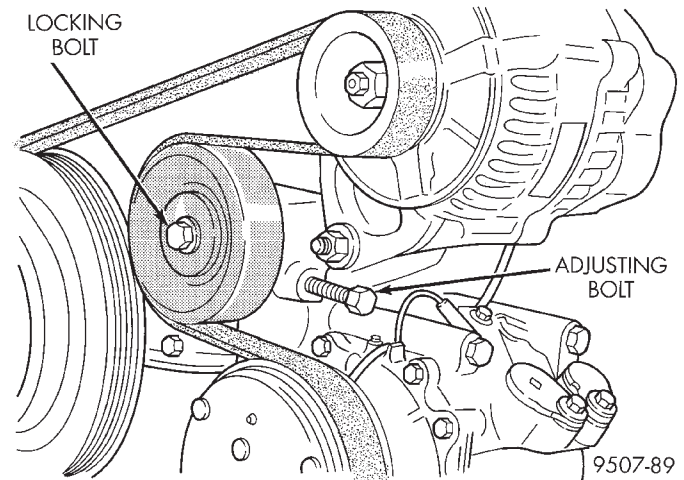

Fig. 49 Air Conditioning Compressor and Generator Belt Idler
- (1) Remove power steering pump drive belt. Refer to procedure in this section.
- (2) Loosen idler pulley locking bolt (Fig. 49).
- (3) Loosen the adjusting screw to decrease the idler pulley tension (Fig. 49).
- (4) Remove belt.
To adjust the air conditioning and generator drive belt, loosen the idler pulley locking bolt and adjust belt tension by turning adjusting screw (Fig. 49). Use Belt Tension Gauge and refer to Belt Tension Chart for specification. Tighten pulley bolt to 54 N·m (40 ft. lbs.) after adjustment.